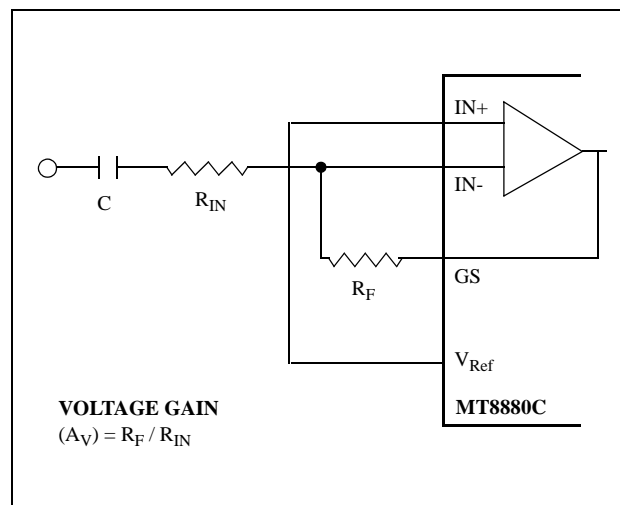

Figure 3 - Single-Ended Input Configuration
The input arrangement of the MT8880C provides a differential-input operational amplifier as well as a bias source (V_{Ref}) which is used to bias the inputs at $V_{DD}/2$. Provision is made for connection of a feedback resistor to the op-amp output (GS) for adjustment of gain. In a single-ended configuration, the input pins are connected as shown in Figure 3.